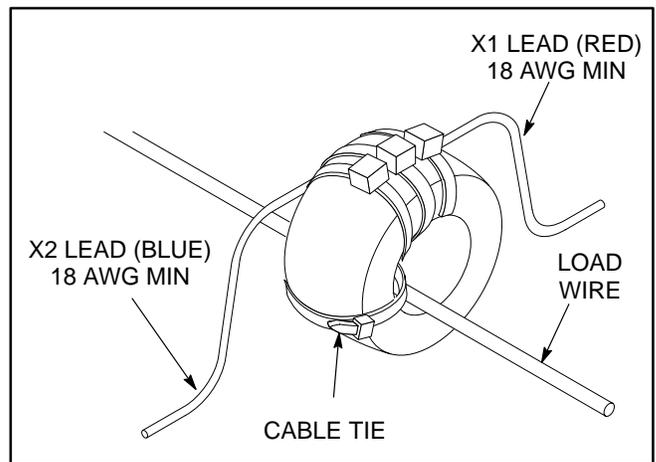

FIGURE 9-3. CURRENT TRANSFORMER INSTALLATION
5. When connecting a line from the AC distribution panel to the inverter(s) or from the inverter(s) to the transfer switch, run each line voltage wire through a current transformer (see Figure 9-3). All 120 VAC Shore Power must pass through the Coach Command power management system current sensor.